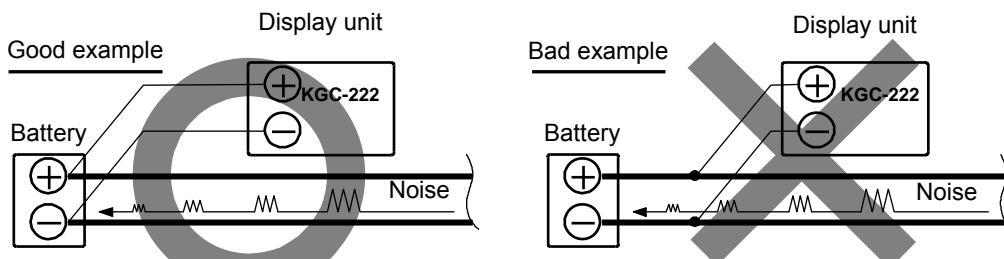

Fig. 1.1 Connection of Power Line
- (1) Keep the antenna cable and power cable as far away from the cables of other electronic equipment as possible.
- (2) The cabinet of Display unit shall be securely grounded to the hull, using the ground terminal on the rear panel.
- (3) If you connect the power cable directly to the battery, the interference from other electronic equipment is expected to be less. (See Fig. 1.1.)